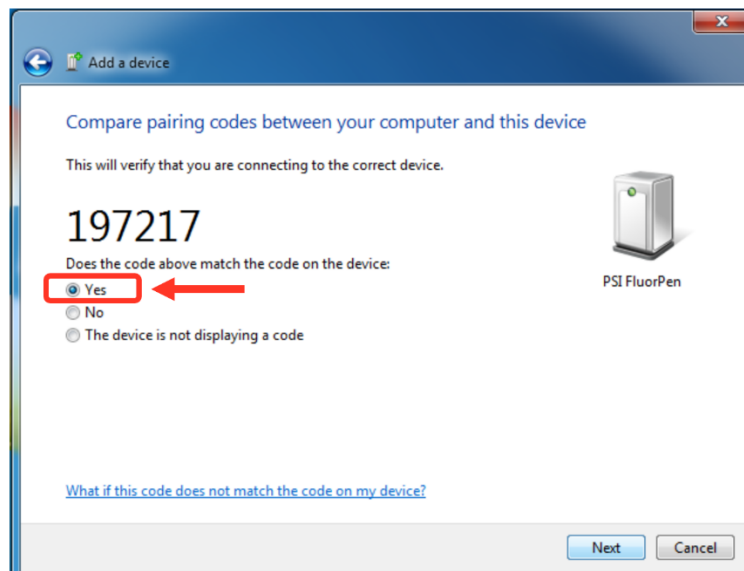

Fig. 16 Verifying of the BT pairing.
- Select: Yes (Fig. 16). **Please note that the AquaPen device does not display the verification number. The verification code is not important for the BT connection.**